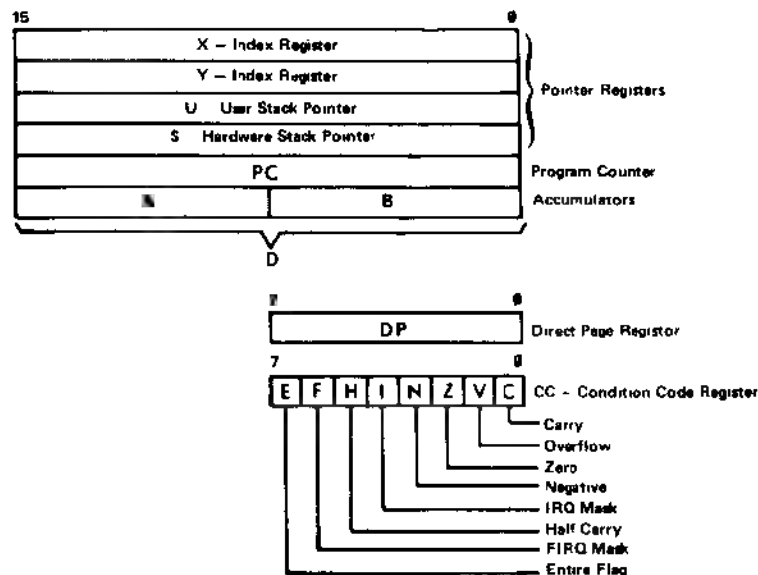

FIGURE 3. PROGRAMMING MODEL OF 6809E CPU
Figure 3 shows the programming model of the 6809E CPU. A and B are the two 8-bit accumulators. They are used for arithmetic operations and data manipulation. Also A and B may be combined to form the 16-bit register D, with A as the most significant byte. The Program Counter (PC) is used primarily for the CPU to keep track of its location in memory. X and Y are both 16-bit index registers. They are used by software to point to certain data or program segments in memory. The Hardware Stack Pointer (S) is used by the processor during subroutine calls and interrupts. Also available